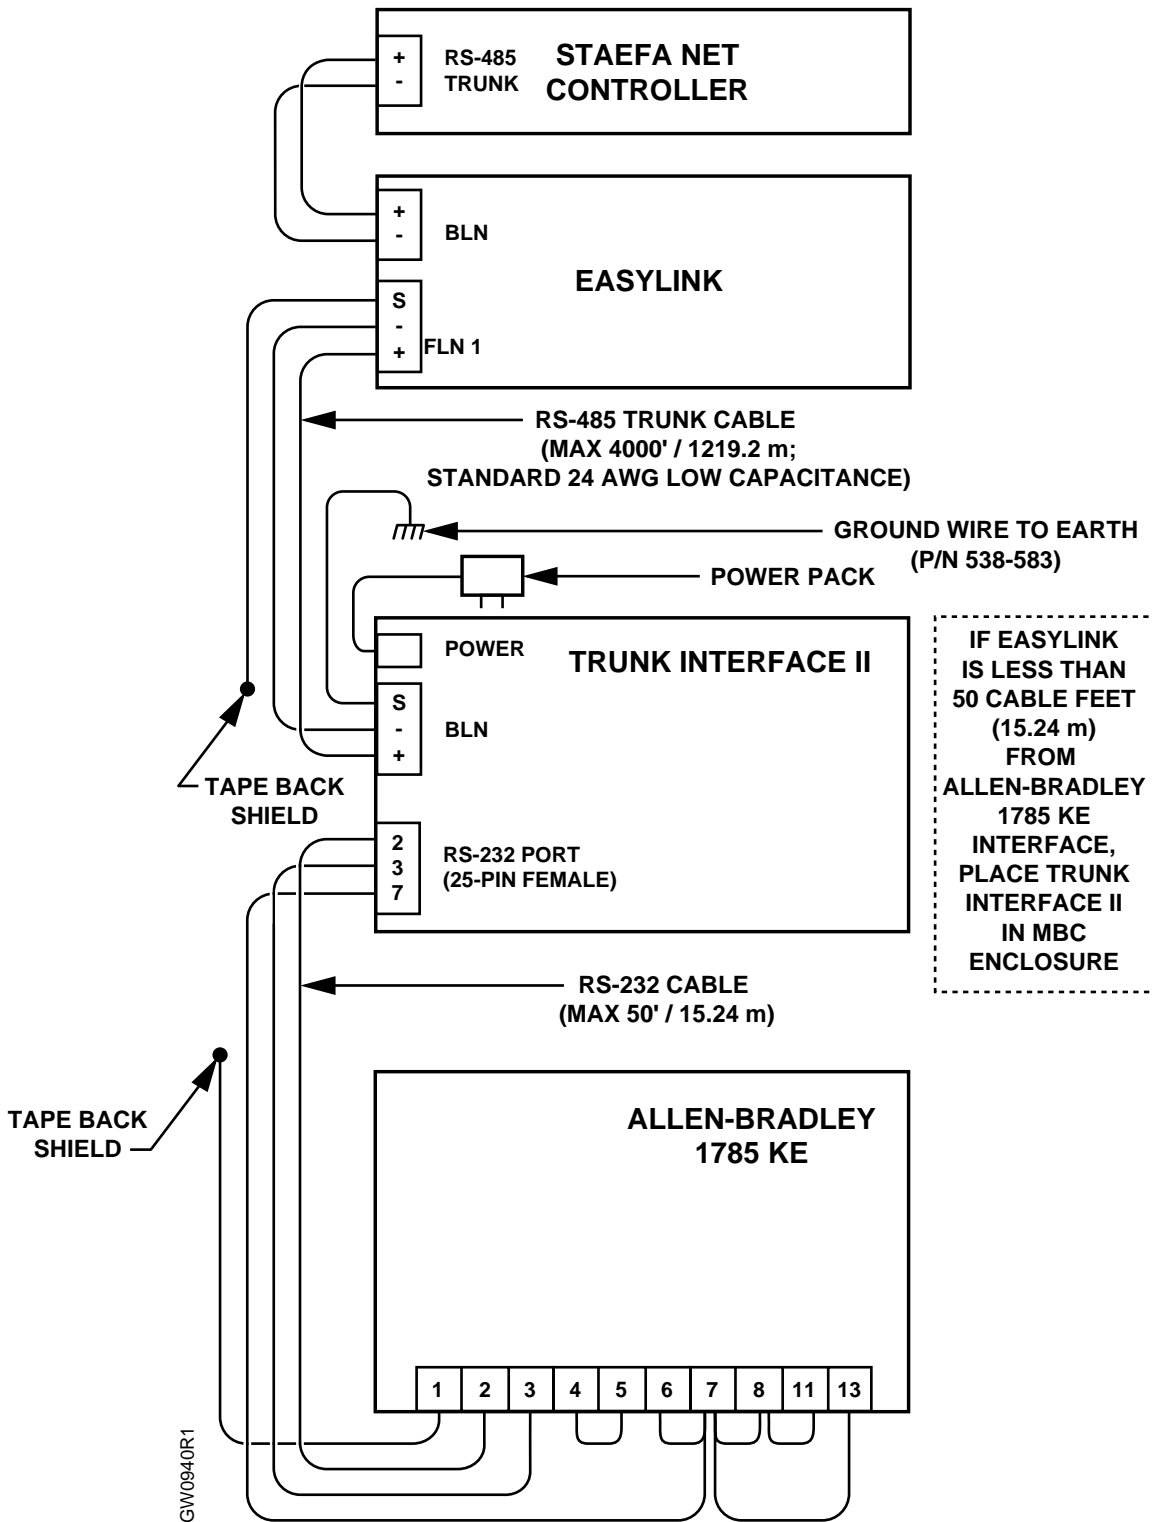
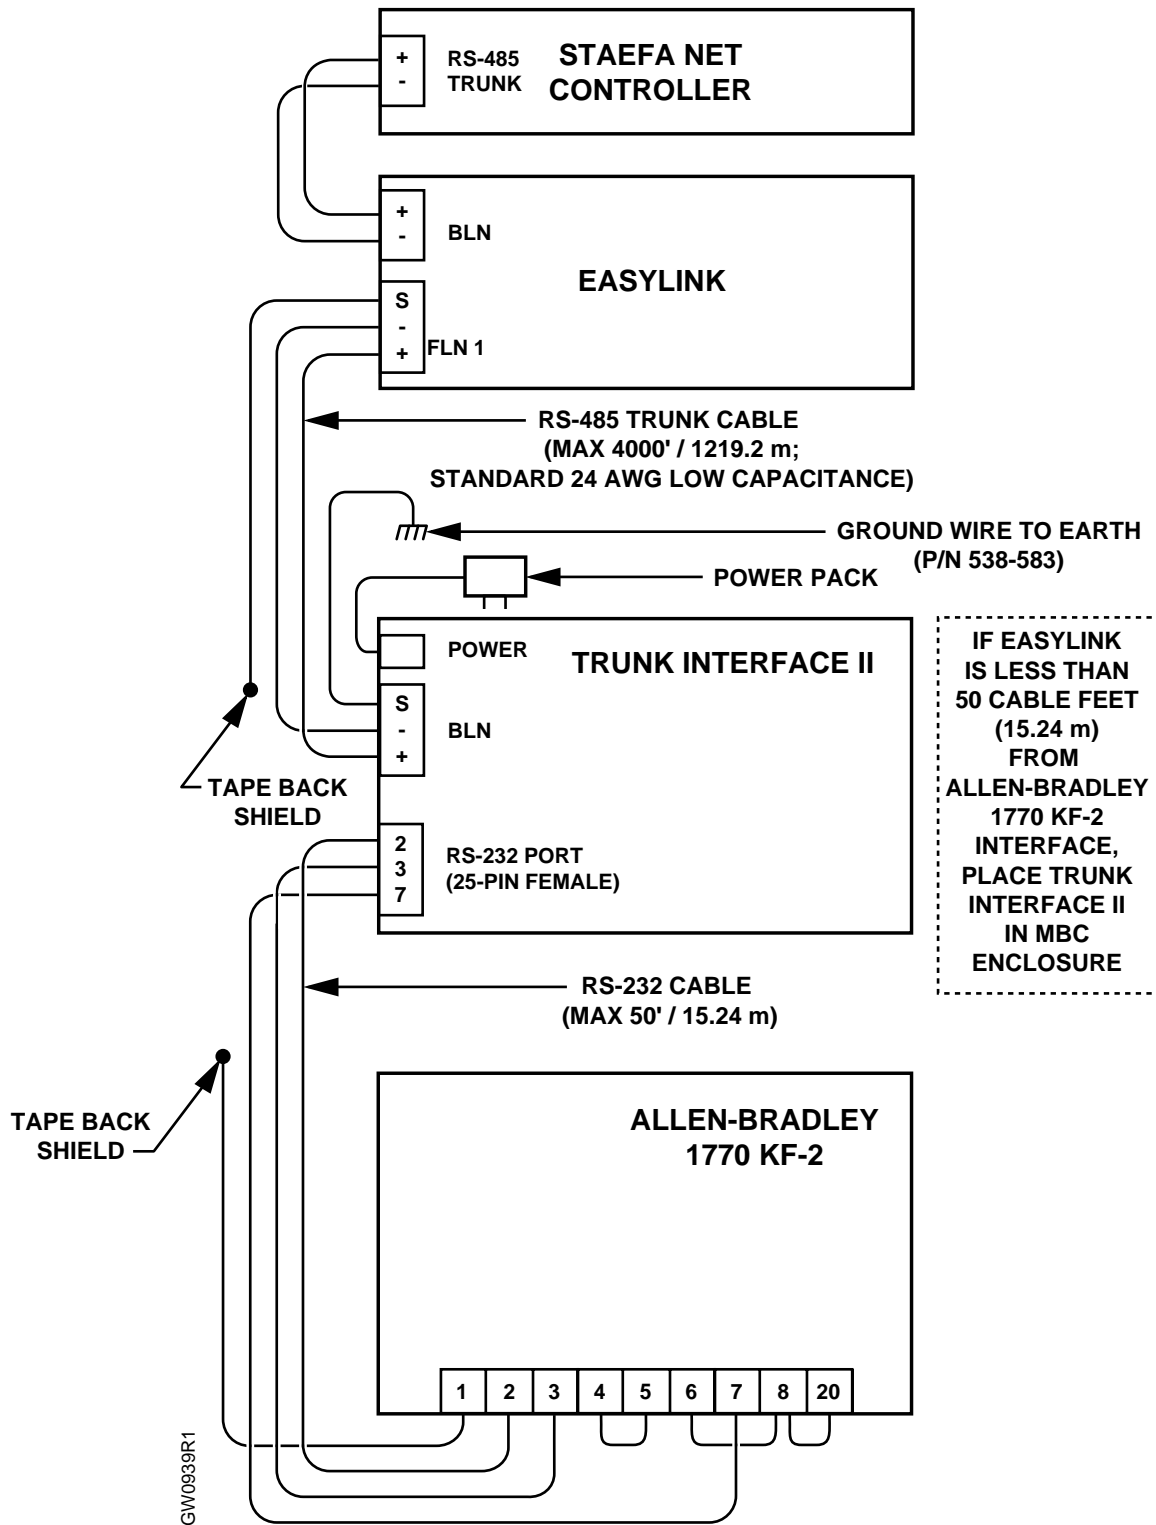
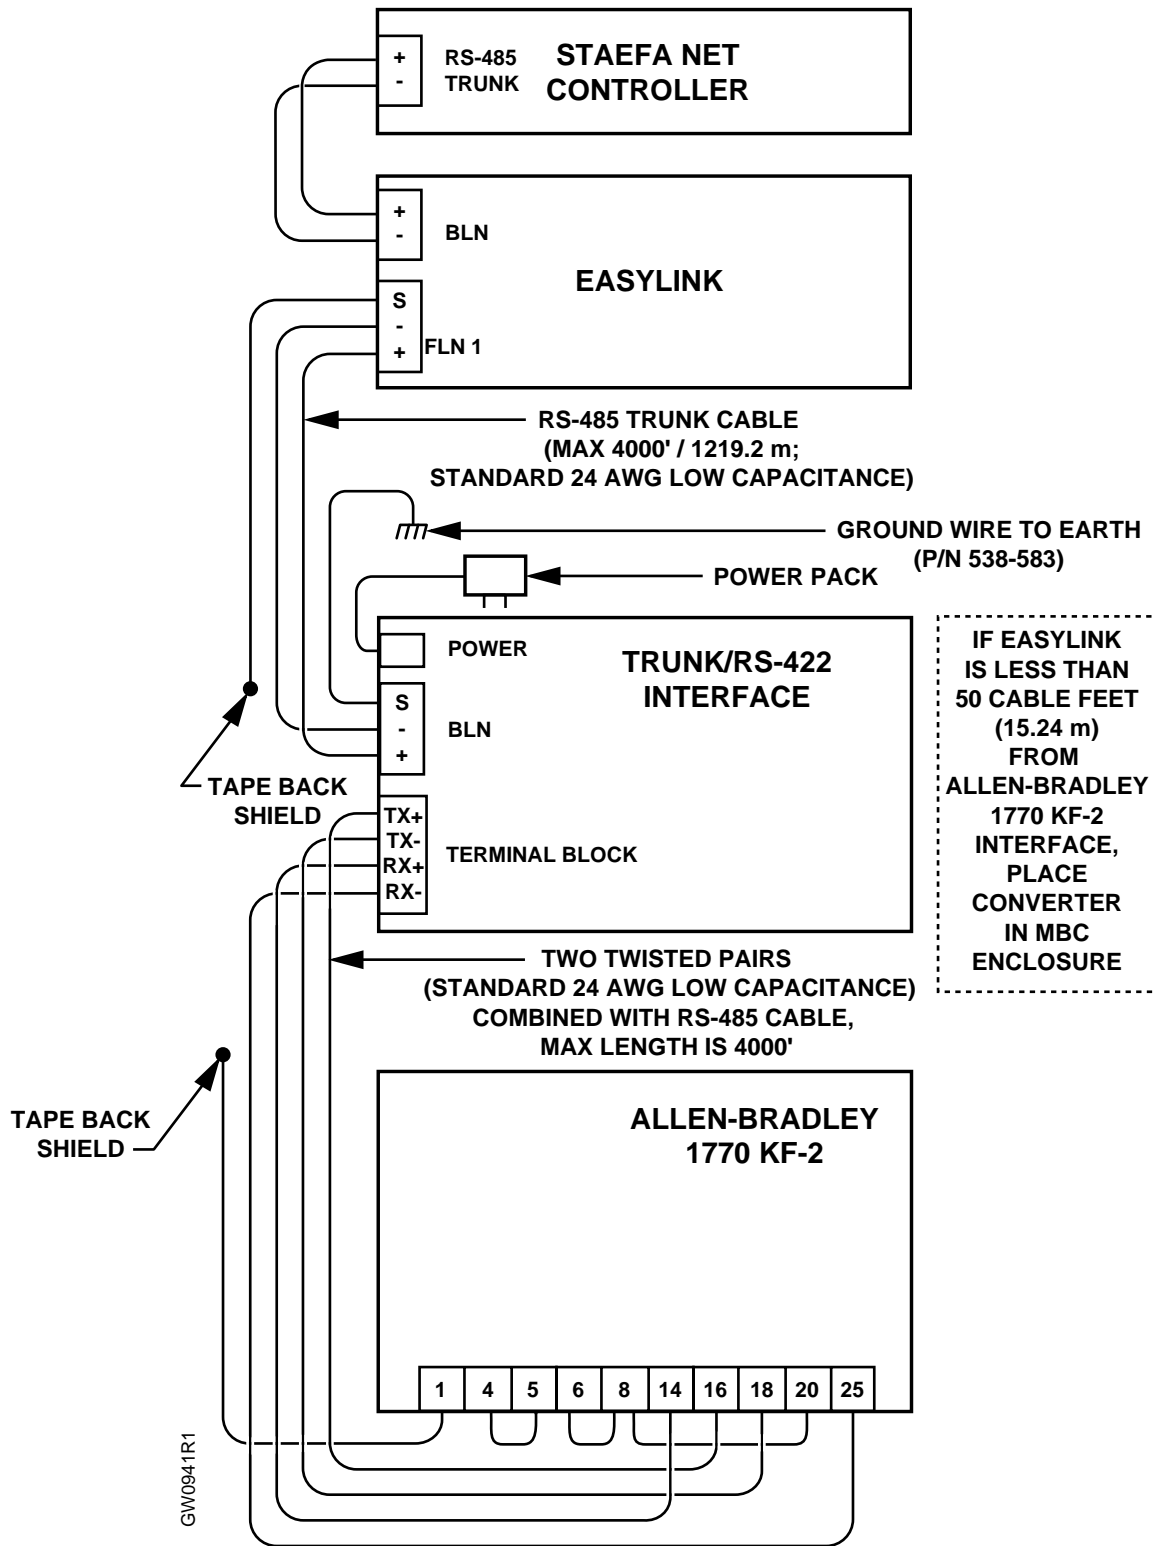

Figure 7. Easylink Wiring Diagram to Allen-Bradley 1785-KE using a Trunk Interface II.
Figure 8. Easylink Wiring Diagram to Allen-Bradley 1770-KF-2 using a Trunk Interface II.
Figure 10. Easylink Connection to the Allen-Bradley 1770 KF-2 using a Trunk/RS-422 Interface.
- Cabling and connectors (Figure 7, Figure 8, and Figure 10).
- All conduit runs to enclosure complete (Figure 7, Figure 8, and Figure 10).
1. Connect the Easylink BLN Port and the Staefa Net Controller Trunk using the guidelines in Figure 7.
4. Make cable per diagram in Figure 7 or Figure 8.
5. Connect cabling to the Allen-Bradley System using the guidelines in Figure 7 or Figure 8.
4. Make cable per diagram in Figure 10.
5. Connect cabling to the Allen-Bradley System using the guidelines in Figure 10.